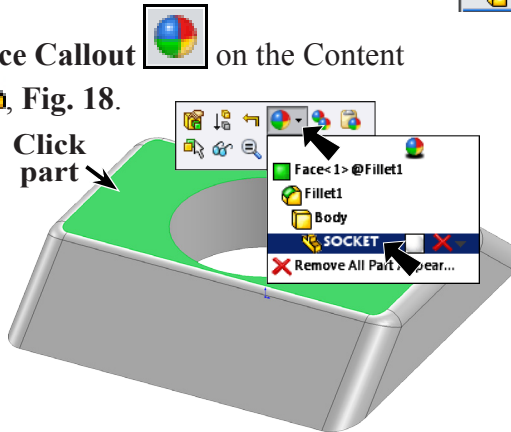

Fig. 18
Step 1. Click the Part, click Appearance Callout  on the Content toolbar and click SOCKET , Fig. 18.